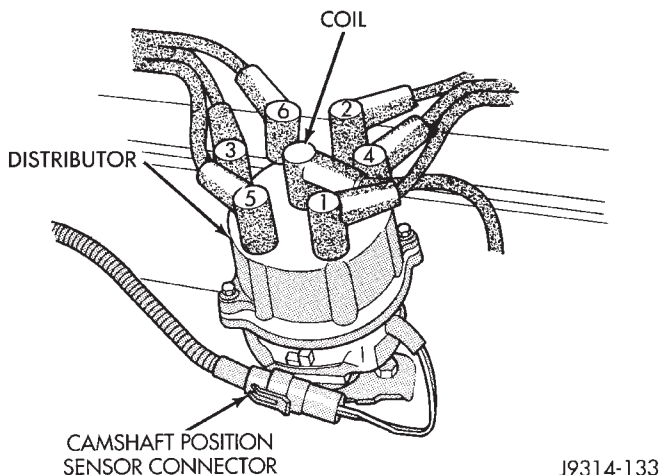

Fig. 36 Distributor and Wiring—4.0L Engine
(5) Verify that distributor cap is correctly attached to distributor. Be sure that spark plug cables are firmly connected to the distributor cap and the spark plugs are in their correct firing order (Fig. 36). Be sure that coil cable is firmly connected to distributor cap and coil. Be sure that camshaft position sensor wire connector (at the distributor) is firmly connected to harness connector. Inspect spark plug condition. Refer to Group 8D, Ignition. Connect vehicle to an oscilloscope and inspect spark events for fouled or damaged spark plugs or cables.
(6) Verify that generator output wire, generator connector and ground wire are firmly connected to the generator.
(7) Inspect the system body grounds for loose or dirty connections. Refer to Group 8, Wiring for ground locations.